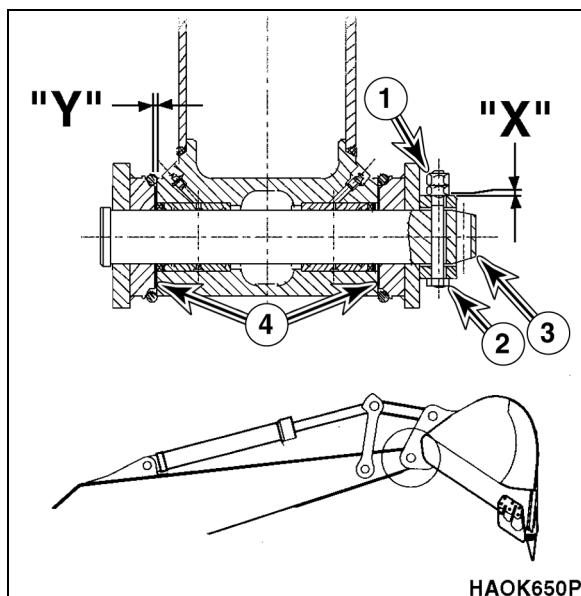

Figure 17
2. Force bucket to one side and check for end play (side-to-side) clearance under O-rings at attachment point. Total clearance should be 1 mm (0.04 in) between side face of boss and inside edge of ear bushing (Y, Figure 17). Too tight a fit (less than 1 mm (0.04 in)) can cause excessive wear while too much clearance may produce excessive noise and potentially hazardous slack control.
4. If an adjustment is required, remove two jam nuts (1, Figure 17) and bolt (2) from pin (3). Add or remove shims (4) as required. Use equal amount of shims on each side. Install bolt (2) and two jam nuts (1). Jam nuts must clear boss by 1 - 2 mm (0.04 - 0.08 in) at point (X).
4. If an adjustment is required, remove bolt (Figure 17) and pin. Add or remove shims as required. Install pin and bolt. Torque bolts to 42 N•m / 4.3 kg•m (31 ft lb).